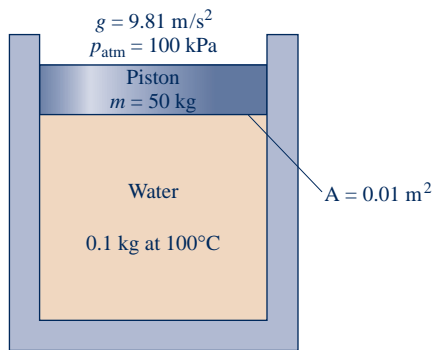

Fig. P3.22
3.22 As shown in Fig. P3.22, 0.1 kg of water is contained within a piston-cylinder assembly at 100°C . The piston is free to move smoothly in the cylinder. The local atmospheric pressure and acceleration of gravity are 100 kPa and 9.81 m/s^2 , respectively. For the water, determine the pressure, in kPa , and volume, in cm^3 .